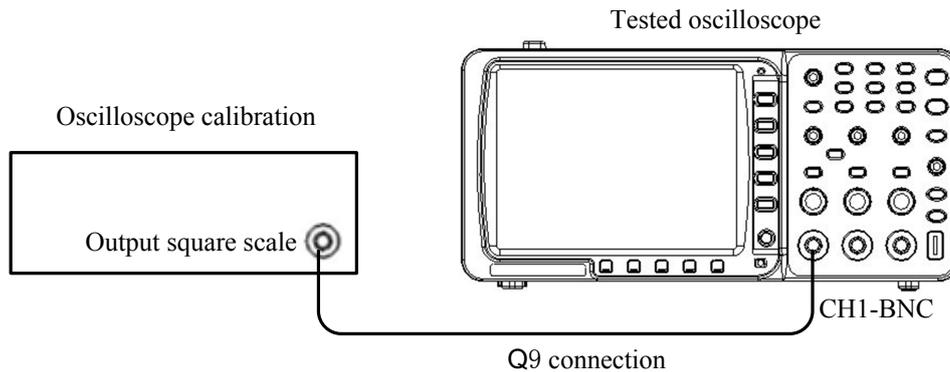

Figure 3: Connection of voltage division and error inspection
A. As shown by Figure 3 connected, CH 1 set as follows:
A. As shown by figure 3.connected:
A. As shown by Figure 3 connected.